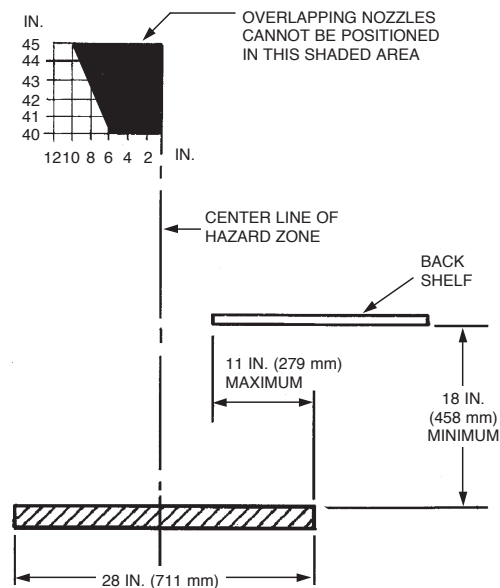

FIGURE 4-140
- b. Exception No. 2: When using overlapping appliance nozzles in areas where there is a back shelf, the nozzle cannot be positioned in the shaded area as shown in Figure 4-140. Also, back shelf must not extend more than 11 in. (279 mm) over the hazard zone and cannot be less than 18 in. (458 mm) above the hazard zone. See Figure 4-140.